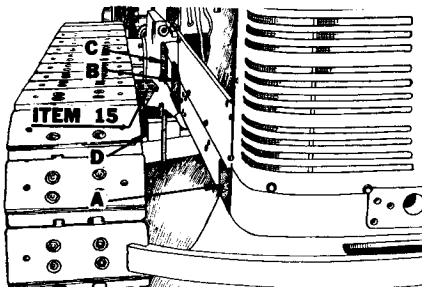

Figure 13 Preparing Tractor for Mounting Main Frame
ITEM 15 - Figure 13
Attach the brackets to the tractor mounting pads against the inside face of the track frame casting. See (Item 15), Figure 13. Six $\frac{3}{8}$ "x2" capscrews and six $\frac{3}{8}$ " lockwashers are required for each support. Mount one support on each side of the tractor.
Remove the driving lights and exhaust mufflers. Remove radiator guard including guard side braces. Remove four bolts designated (A), Figure 13, from each side of the tractor. The bolts are located in the mounting pads at the base of the radiator shell.
Remove right and left crossbar brackets including U-bolts from tractor frame side channel. Loosen clamp bolts on wedge blocks slightly. See (B), Figure 13.
Remove bolts from both sides of the tractor main frame as designated at (C), Figure 13.
serve (A), (B) and (C), Figure 13, showing position of shims. It is necessary to place the shims in the positions indicated after the frame is lowered in place.
frame. Set the front portion of the main frame base on the tractor crossbar wedge. Set the rear portion of the main frame on the supports that are fastened to the track roller frame. Insert shims, shown (A), (B) and (C), Figure 13. Place the shims between the tractor and the main frame. Sway or jostle the frame until the capscrew holes line up but do not tighten capscrews at this time.